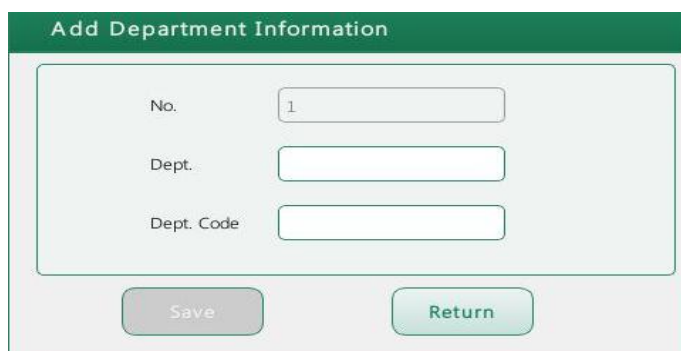

Figure 5-16
- Click "Add" to enter the department information adding interface, as shown in Figure 5-16. Enter the department name and code (i.e. quick input code of the department).